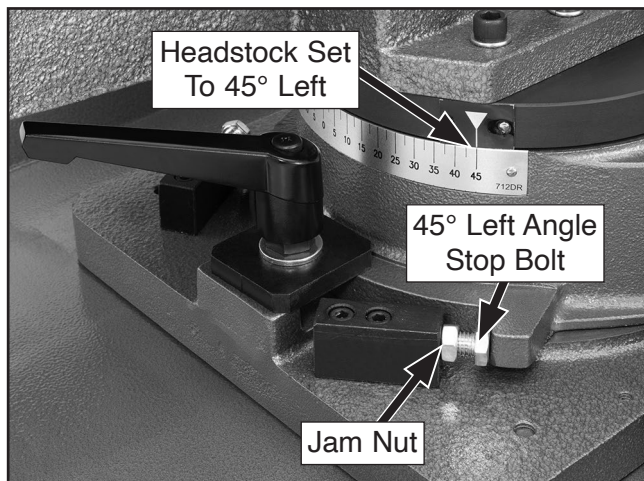

Figure 90. Location of 45° left angle stop components.
- If scale displays 45° (see **Figure 90**), stop does not require adjustment. Proceed to **Step 11**.
10. Loosen jam nut, adjust 45° left stop bolt until it is snug against headstock base and scale is at 45°, then tighten jam nut (see **Figure 90**).